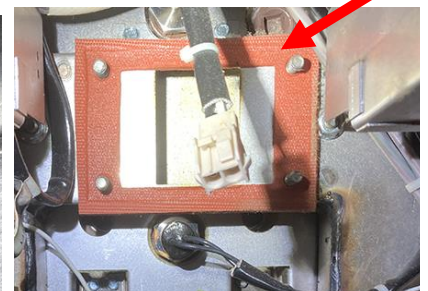

Figure 15
17. Remove the blower exposing the gasket (see Figure 15).